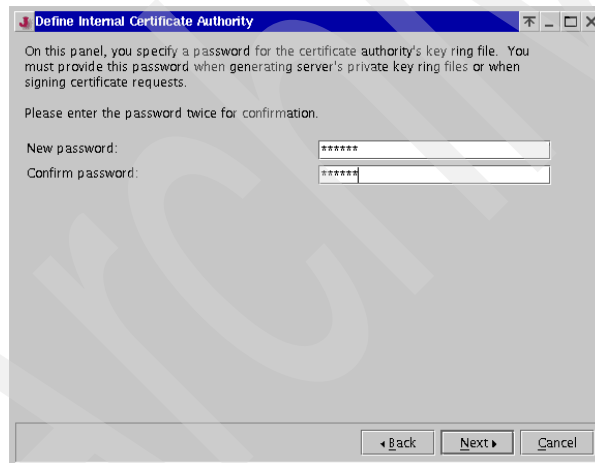

Figure 7-7 Entering password for the CA key ring file
6. The wizard prompts you to enter the password for the CA's key ring file as shown in Figure 7-7. Type the appropriate password twice, and click **Next**.
2. Select the Properties task. A window opens that prompts you to enter the password that was used for creating the private key on the HMC (see Figure 7-7 on page 131). Enter the password, then click **OK**.
3. The window shown in Figure 7-10 opens and prompts you to enter the password that was used for creating the private key on the HMC (see Figure 7-7 on page 131). Enter the password, then click **OK**.
3. A window shown in Figure 7-10 on page 133 opens that prompts you to enter a password that was used for creating the private key on the HMC (see Figure 7-7 on page 131). Enter the password, then click **OK**.